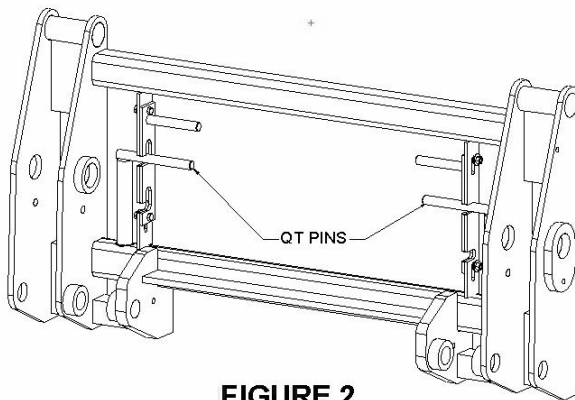

FIGURE 2.
STEP 2 Remove the stand legs from their stored position and place them in their dismount position. Slide the inner tubes down to the extended position and secure them with the 3/4" pins. See Fig. 2.
2. Rotate QT pins out of the lower notches, raise, and then rotate them into the upper notches of the sliding latches as shown in Figure 2.
2. When the QT frame is flat against the attachment, raise the sliding latches as shown in Figure 2.